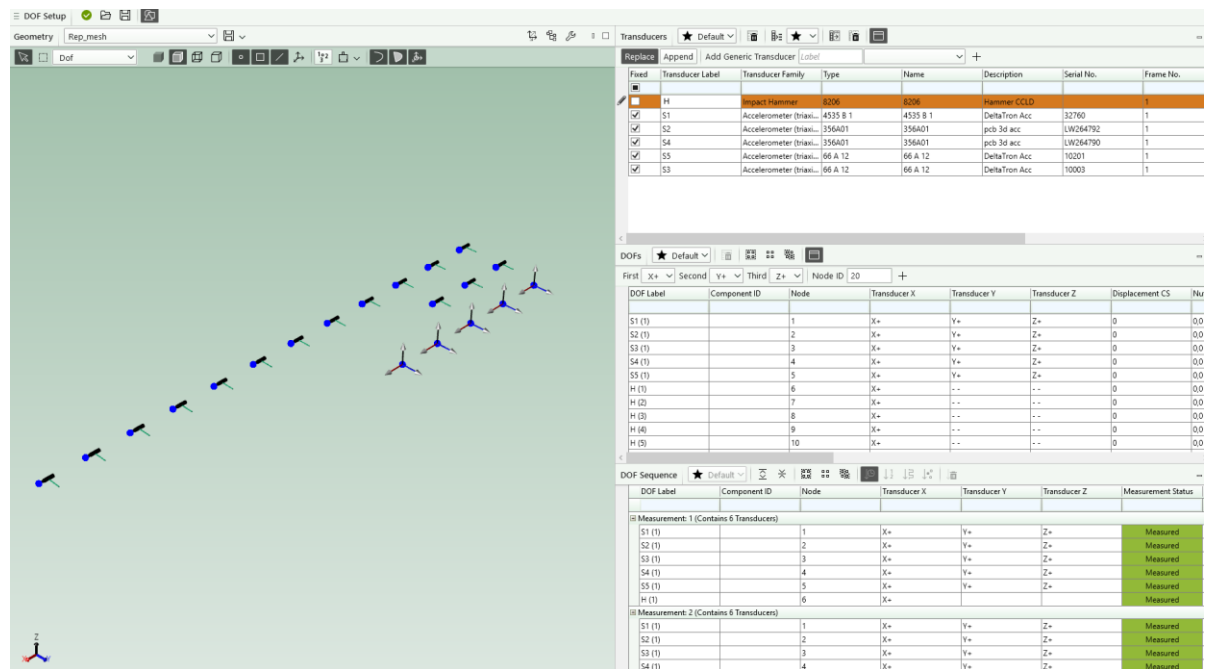

Figure 2 DOF setup. You should have 15 small hammer symbols and 5 coordinate systems representing the sensors.
- 1) Click **SET UP / DOF Setup**. The “blue-dot” geometry (Fig.2) should appear in the geometry window at the left.